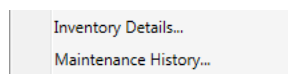

Figure 3-43 – IMS Context Menu
- **IMS Context Menu** (see Figure 3-43): This context menu provides the operator with options for accessing the IMS subsystem by selecting an icon on the map.